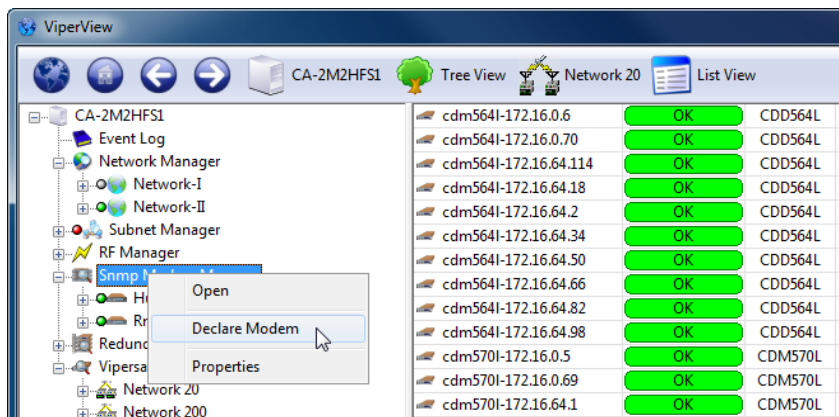

Figure 7-1 SNMP Modem Manager command menu
1. To set the manager **Timing Intervals**, right-click on the SNMP Modem Manager to display the drop-down menu shown in figure 7-1.